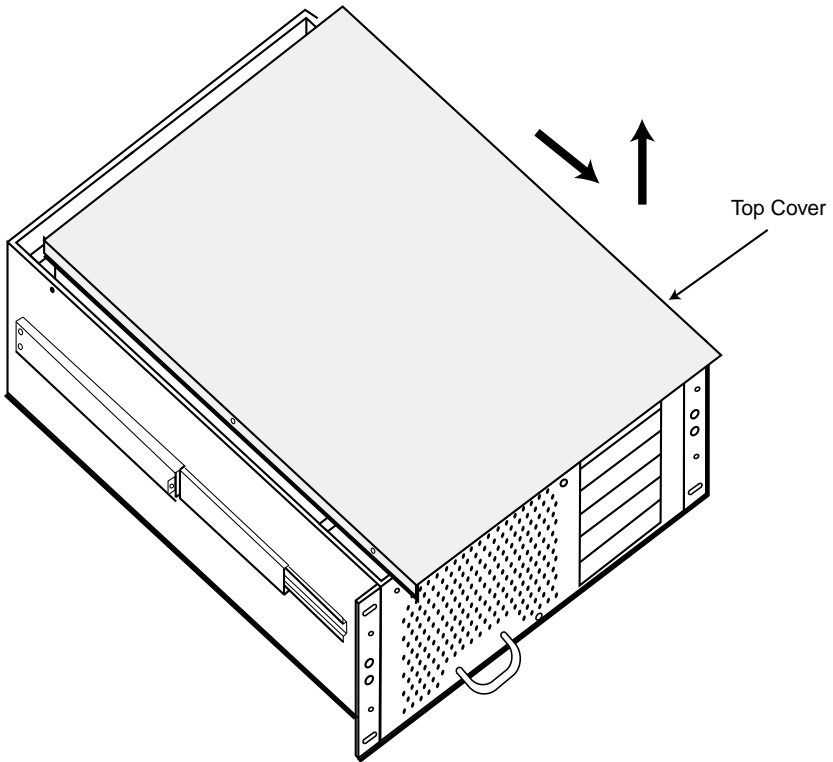

Figure 4-2. Top Cover Removal
- [] 7. Refer to Figure 4-2. Carefully slide the Top Cover towards the front of the chassis to disengage the rear securing tabs, then lift the top cover.